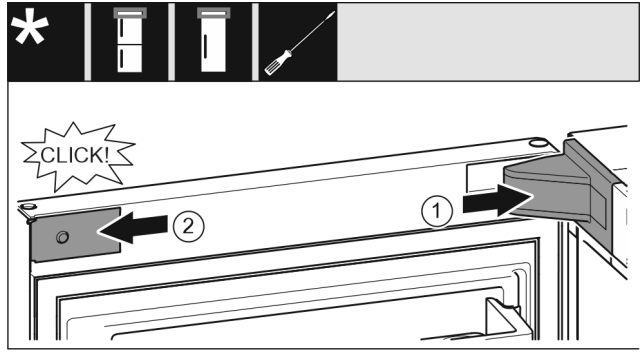

Fig. 40
- ▶ Put the swap bearing block cover *Fig. 40 (1)* on and engage, push apart carefully if required.
- ▶ Place the trim *Fig. 40 (2)* on the side and engage.